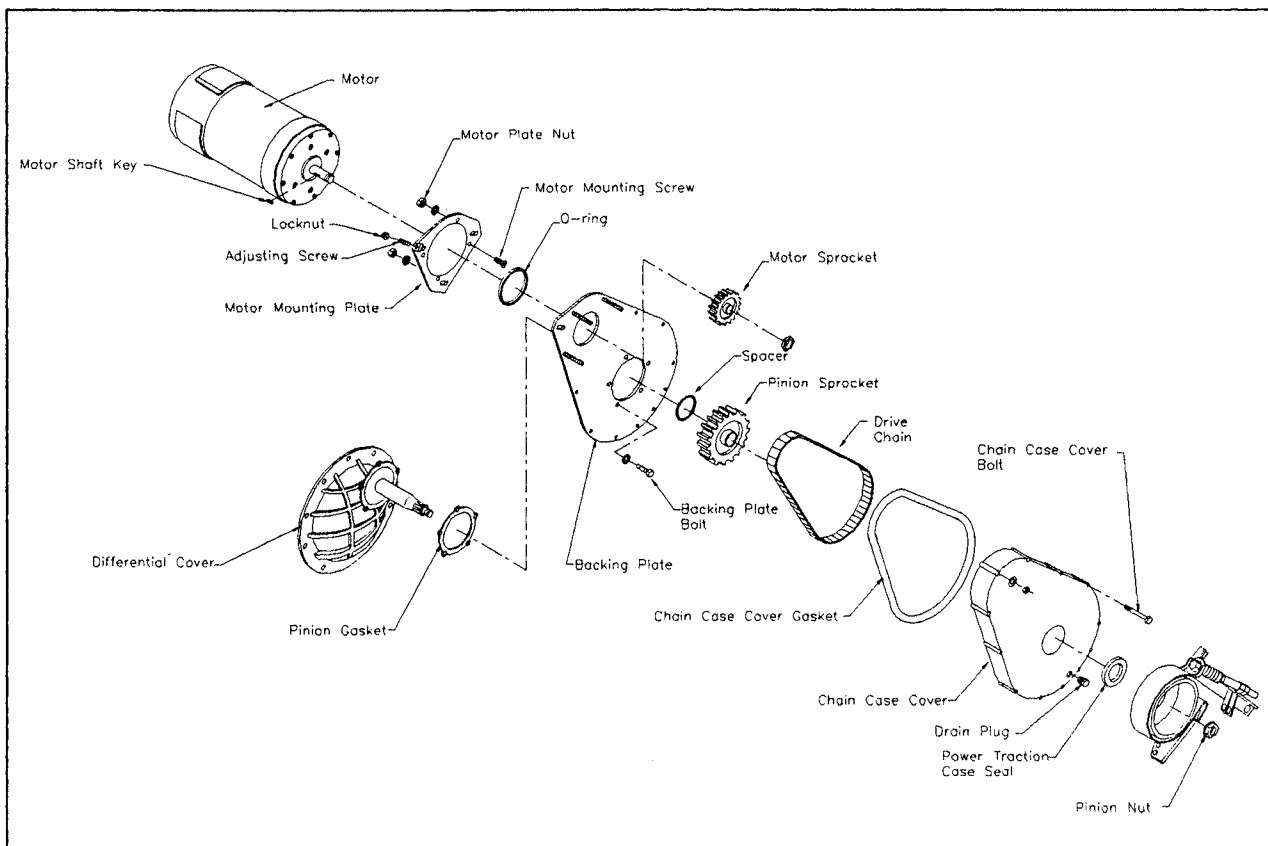

Figure 3-9
- Loosen the nuts on the motor mounting plate just enough to let the motor and plate move freely (see Figure 3-9).
- Loosen and remove the 1/2" bolt and the brake shoe assembly components (see Figure 3-9).